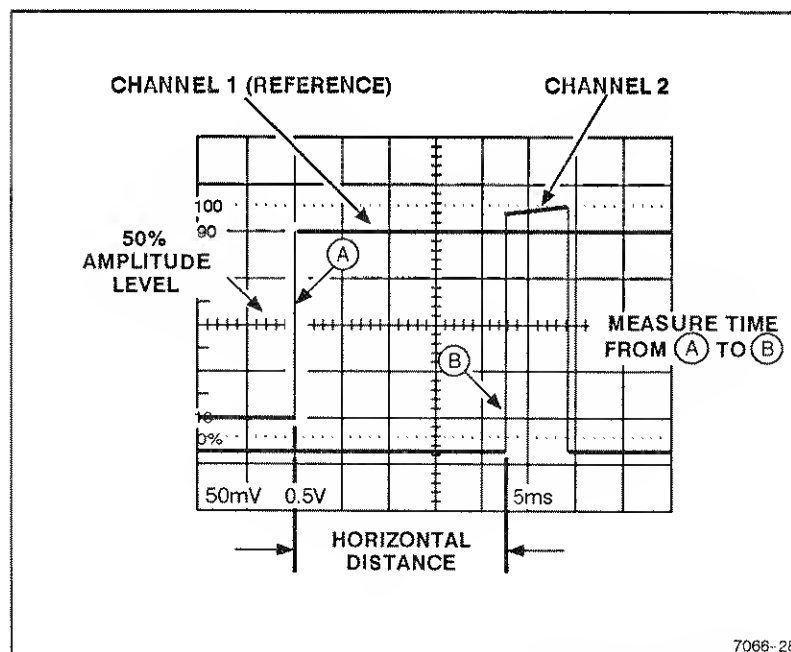

Figure 6-7. Time difference between two time-related pulses.
8. Set the A SEC/DIV switch to a sweep speed which provides three or more divisions of horizontal separation between the reference points on the two displays. Center each of the displays vertically (see Figure 6-7).